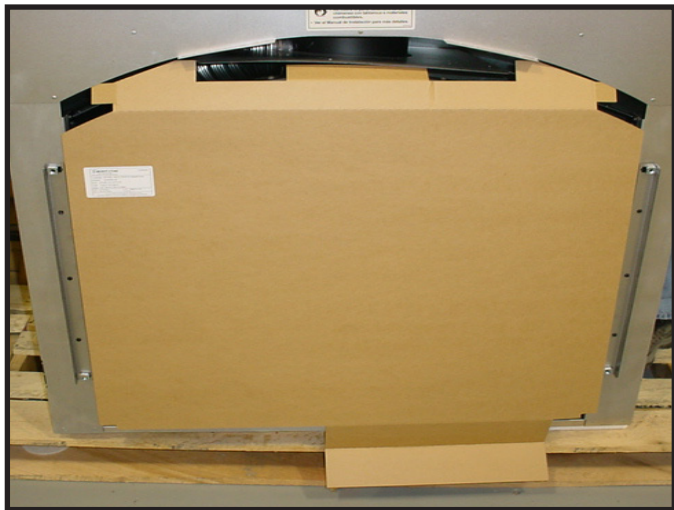

Figure 13.1.
Step 1. Turn off gas to valve. Red gas shutoff knob is located on ball valve. Disconnect the 3 volt transformer from the junction box. See Figure 13.1.